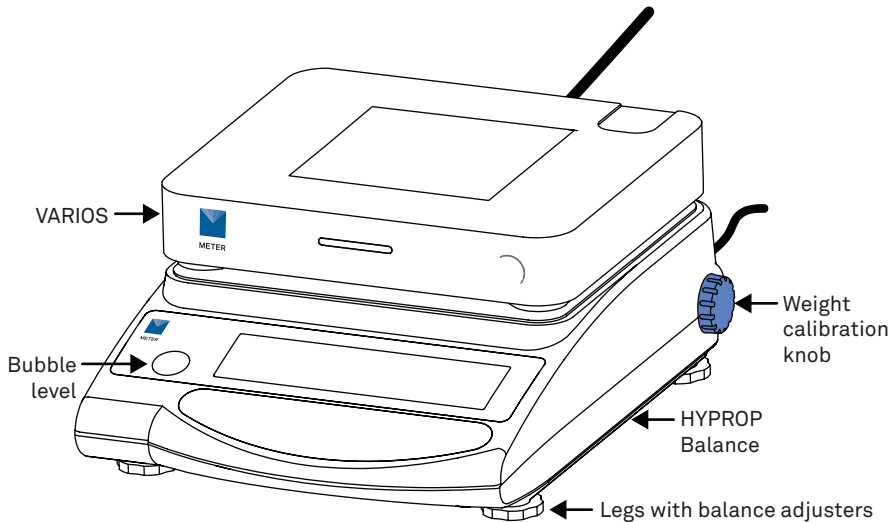

Figure 22 Balance leg adjusters and bubble level
2. Adjust the Balance by turning the Balance adjusters on the legs of the Balance until the level air bubble rests in the center of the level red circle (Figure 22).
3. Connect the Balance to the power supply and to the computer via the included USB cable and turn the Balance on (Figure 22).